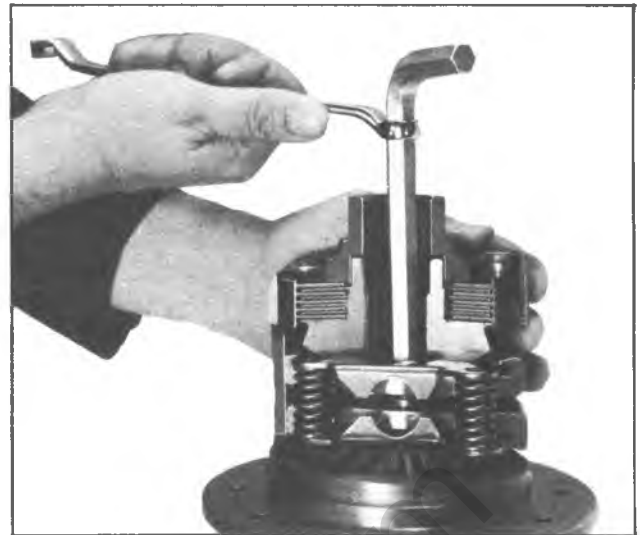

Fig. 5D—Removing Preload Spring Pack (Corvette)
3. **On Corvette** it will be necessary to raise the spring retainers slightly to clear the shoulder on the side gears. Install Tool J-22311 to clutch pack so that slotted ends are equally engaged at front and rear of spring retainer. See Figure 5D.